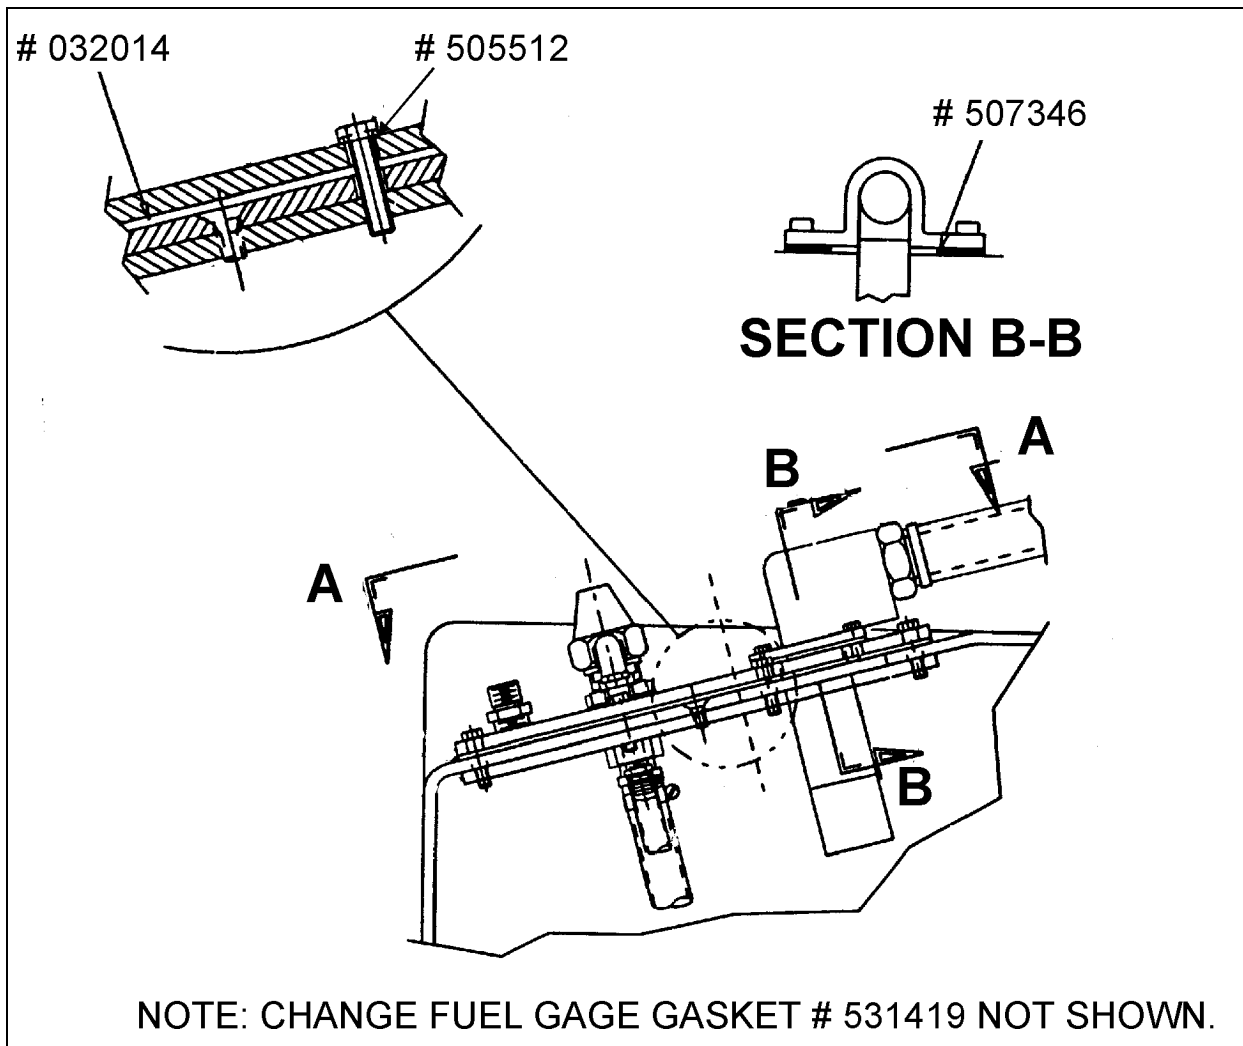

FIGURE 3
- Using new seal and new copper washers (Prévost #032014 and #505512), install new fuel tank control panel (Fig. 3).